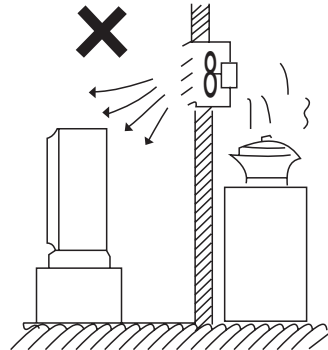

Figure 3
- Heat source and fan exhausting (Figure 3);